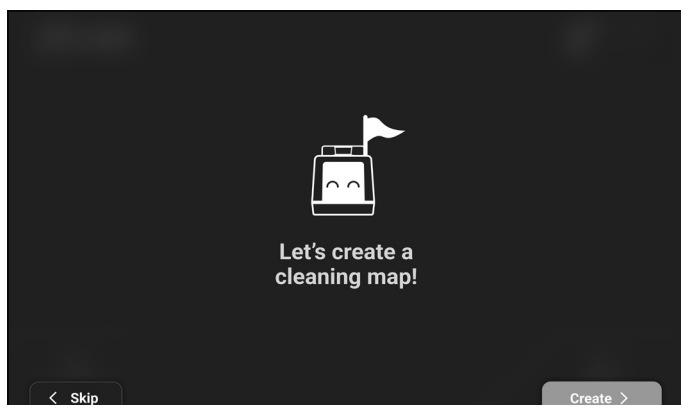

Figure 24
will prompt to create a new map if it has not been set up (**Fig. 24**).
1. Press 'Create' (Fig. 24), or 'Skip' if you would like to set it up later.